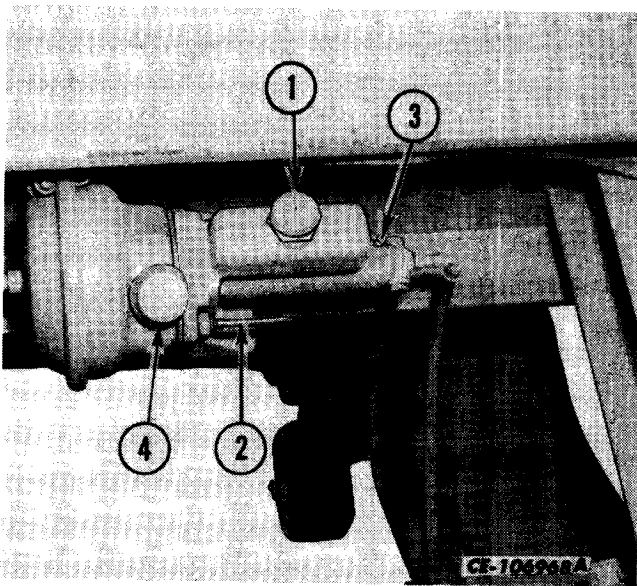

Fig. 18. Service Brake Power Cluster
2. Clean the area around filler cap (1, Fig. 18), and remove the cap.
5. Service air chamber breather (4, Fig. 18), as follows:
9. Measure the length of the four power cluster stroke indicators (2, Fig. 18). The length of each stroke indicator should be less than 60 mm (2-3/8 in.) with the brakes applied. If the length of an indicator exceeds this dimension, the brake requires a manual adjustment. Refer to "ADJUSTING THE BRAKES" in this section for correct procedure.
3. Open bleeder screw (3, Fig. 18) on the power cluster. Depress and hold the brake pedal until clean, air free, fluid appears then close the bleeder screw and release the brake pedal.